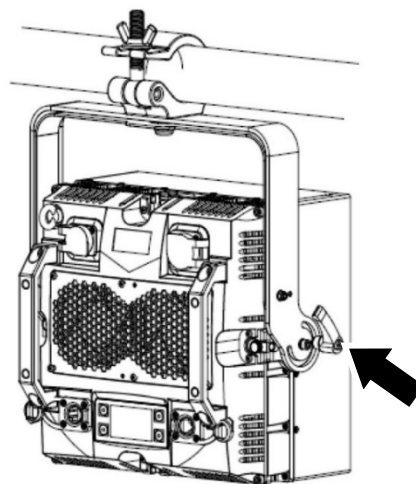

Figure 13. Single KNV Cube suspended in Floorstand-Bracket
1. Turn the legs of the bracket to the fully closed position so that the legs are parallel as shown in Figure 13.
Take a rigging clamp that is approved for the weight of the fixture and bracket and fasten the clamp to the center of the bracket yoke as shown in Figure 13 using an
8. If necessary, loosen the handscrews (arrowed in Figure 13) on both sides of the bracket and adjust tilt. Retighten the handscrews and check that the fixture is held securely.